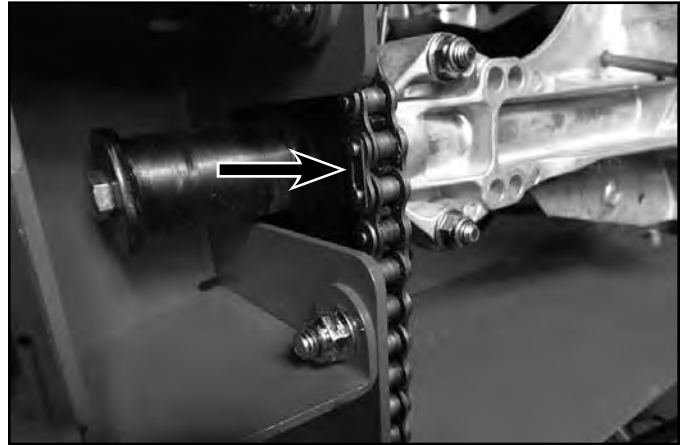

Fig. 100
10. Remove and retain the connecting link from the drive chains. Remove the drive chains from the transmission sprockets (Fig. 100).